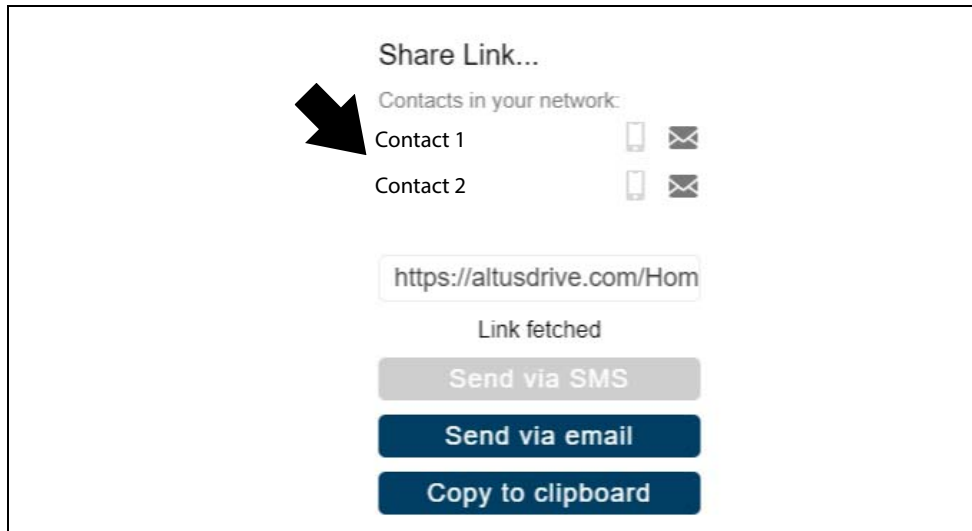

Figure 15-18
2. Select an option (Figure 15-18) from the pop-up window.